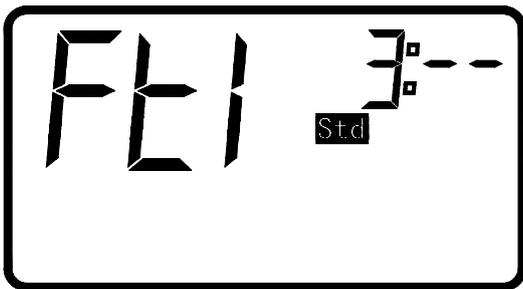

Fig. 9: The last time for filter cycle is 3hrs
4. Under the status of “continuous working period of filter cycle setting”, press “” key to change the period, the setting range is 1-11 hours (Fig. 9).
Press and hold “**M**” key to enter setting mode, and continuously press “**M**” key to go into temperature fine tuning mode(Fig. 9). At this moment, the user could click on “**↓**” or “**↑**” to change the temperature in small range, the ADJ(adjusting) range is -3~-7°F.